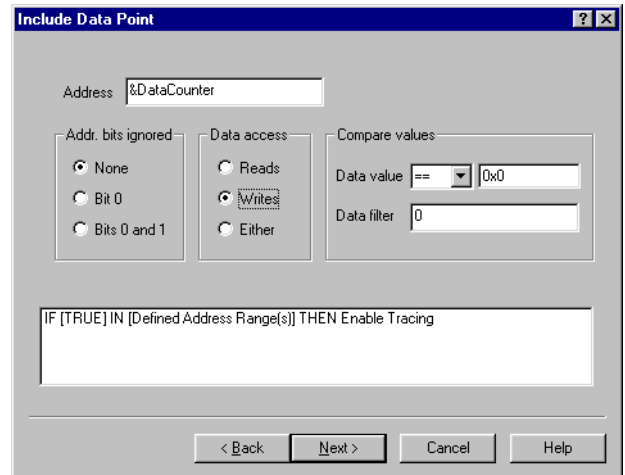

Figure 8-23 Include Data Point dialog box
6. Click **Next>**. The Include Data Point dialog box shown in Figure 8-23 is displayed.